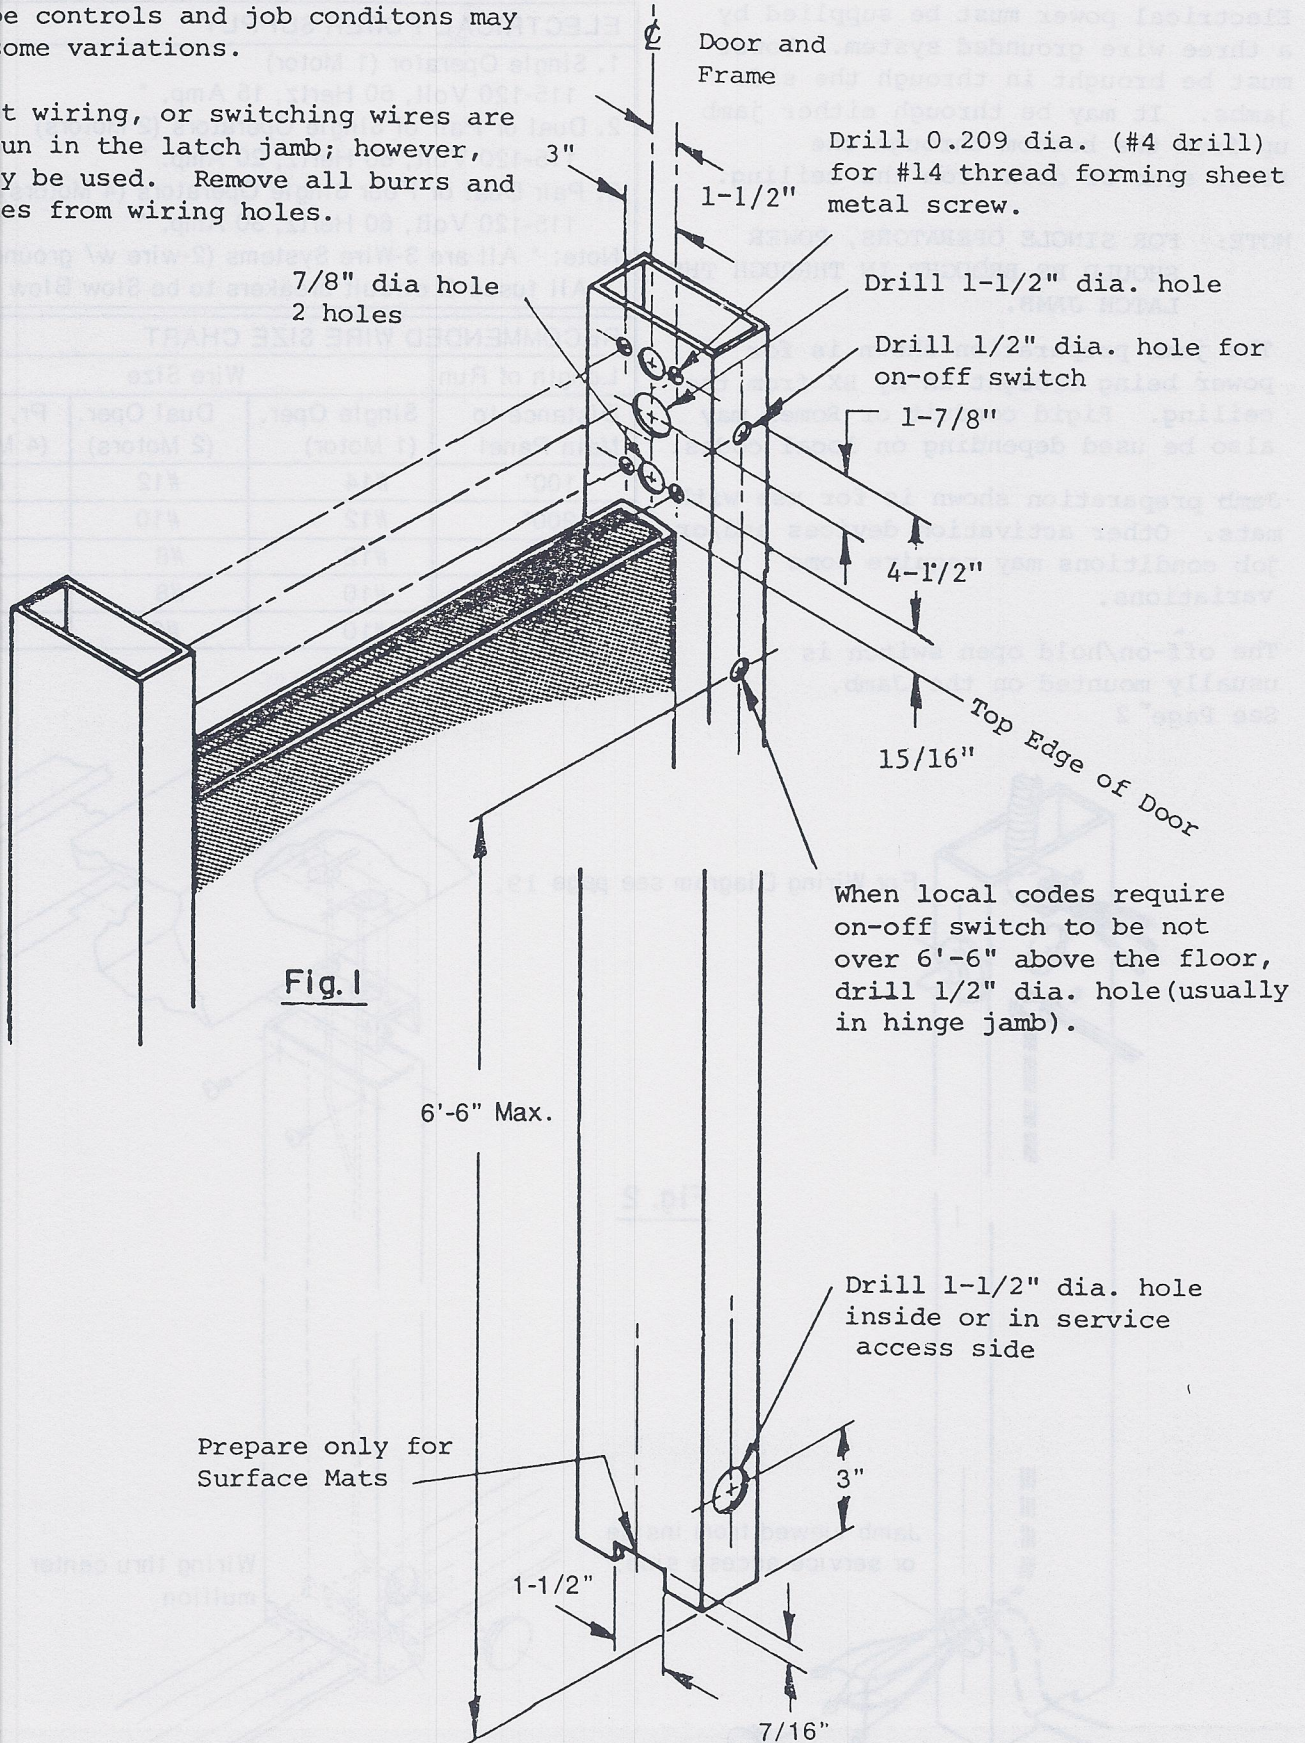

Fig. 1
Predrill four (4) 0.209 diameter holes (#4 drill) in both side jambs as shown in Figure 1 for the header mounting bracket. Mount the brackets to the side jambs using four (4) 1/4-14 thread-forming sheet metal screws provided.